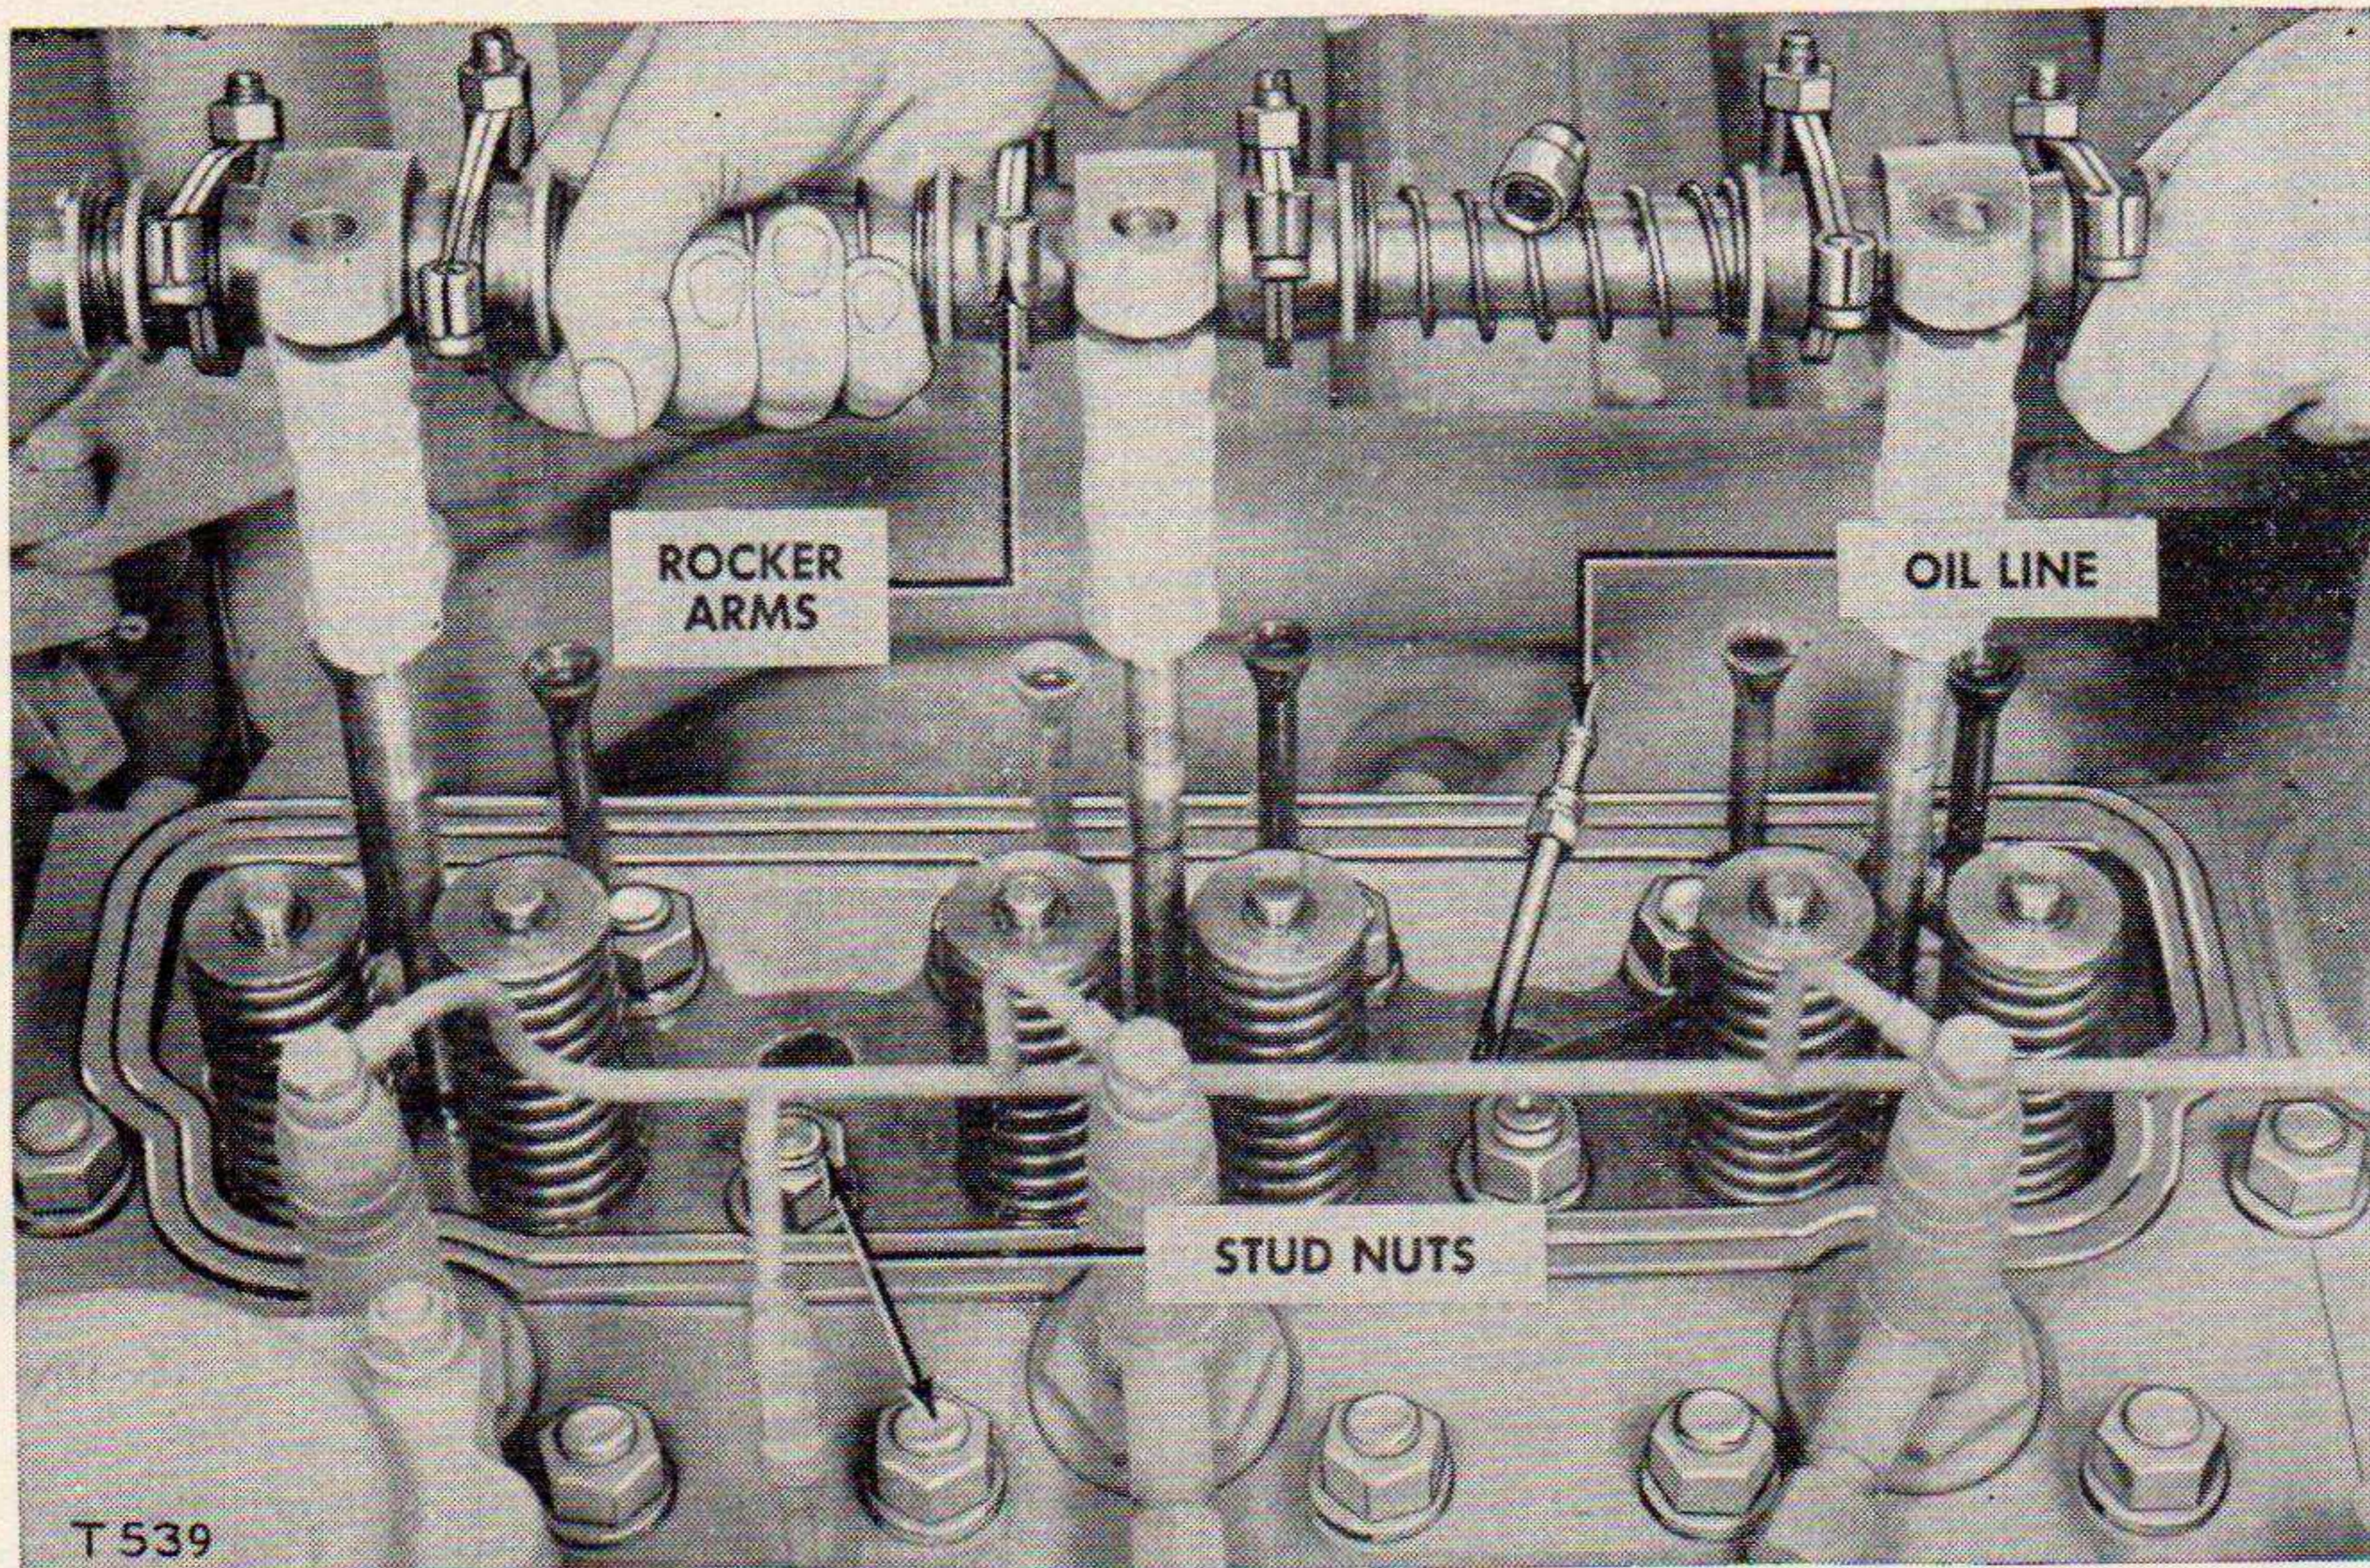

Figure 67. Removing rocker arms preparatory to tightening head stud nuts.
*b.* REMOVING ROCKER ARMS. (See fig. 67.)
- (1) Remove the four nuts that hold the valve rocker arm assemblies in place.
- (2) Disconnect the oil lines and lift the rocker arm assemblies off the studs.